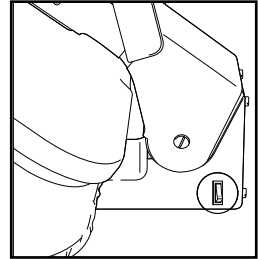

FIGURE 1
1. With Pressing Plate in lifted position, plug power cord into electrical outlet, and set On/Off Switch to "On" (I) position (FIGURE 1).
IMPORTANT: Auto Shut-Off does not mean that power to the unit is totally cut off. Power is always on, and the Power Indicator Light will remain illuminated until On/Off Switch is set to "Off" (O) position (FIGURE 1, page 6).